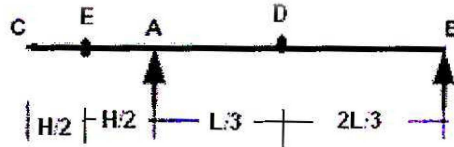

Fig. 10(b)
- (b) Plot ILD for reactions at A and B supports and S.F. and B.M. at point 'E' and 'D' for the beam shown in Fig. 10(b).